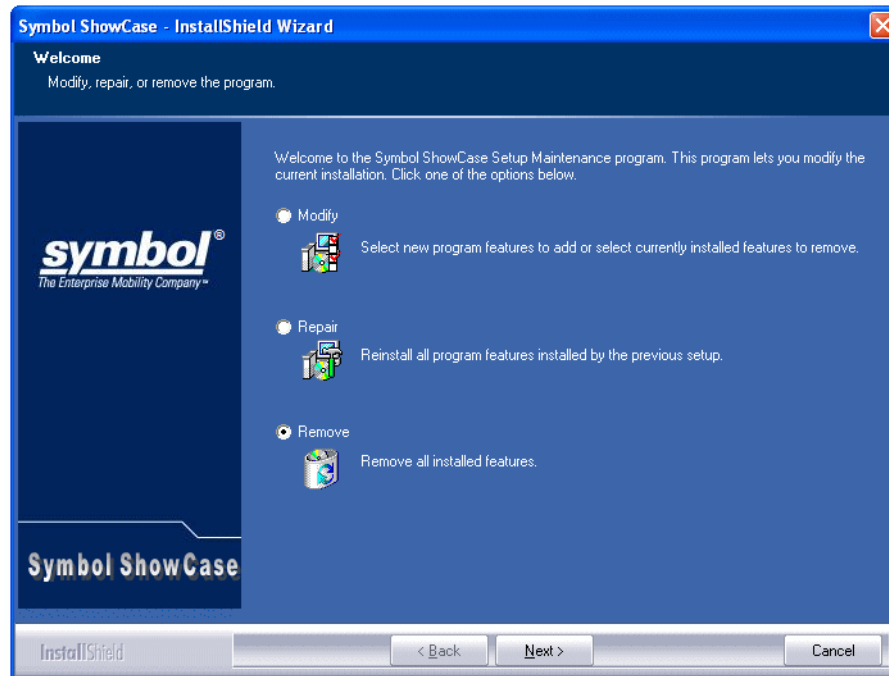

Figure 5-8. ShowCase Modify, Repair, or Remove Window
2. The *Preparing Setup* window automatically launches the *ShowCase Modify, Repair or Remove* window (see Figure 5-8 on page 5-7).